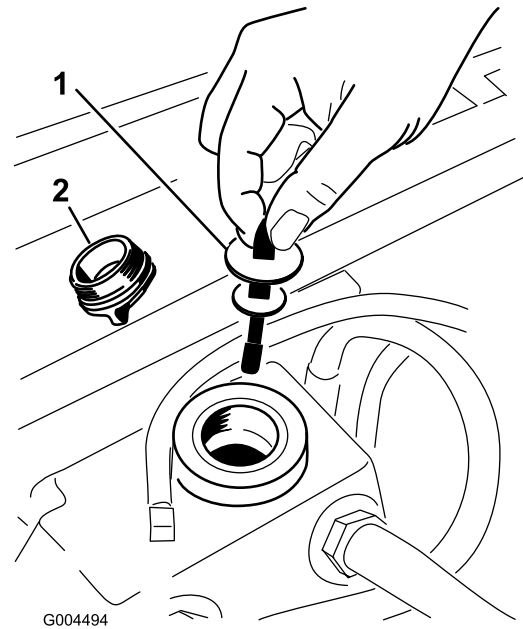

Figure 91
5. Remove the hydraulic fill cap from the filler neck (Figure 91).
6. Remove the dipstick and wipe it with a clean rag (Figure 91).
7. Place the dipstick into the filler neck; then remove it and check the level of fluid (Figure 91).